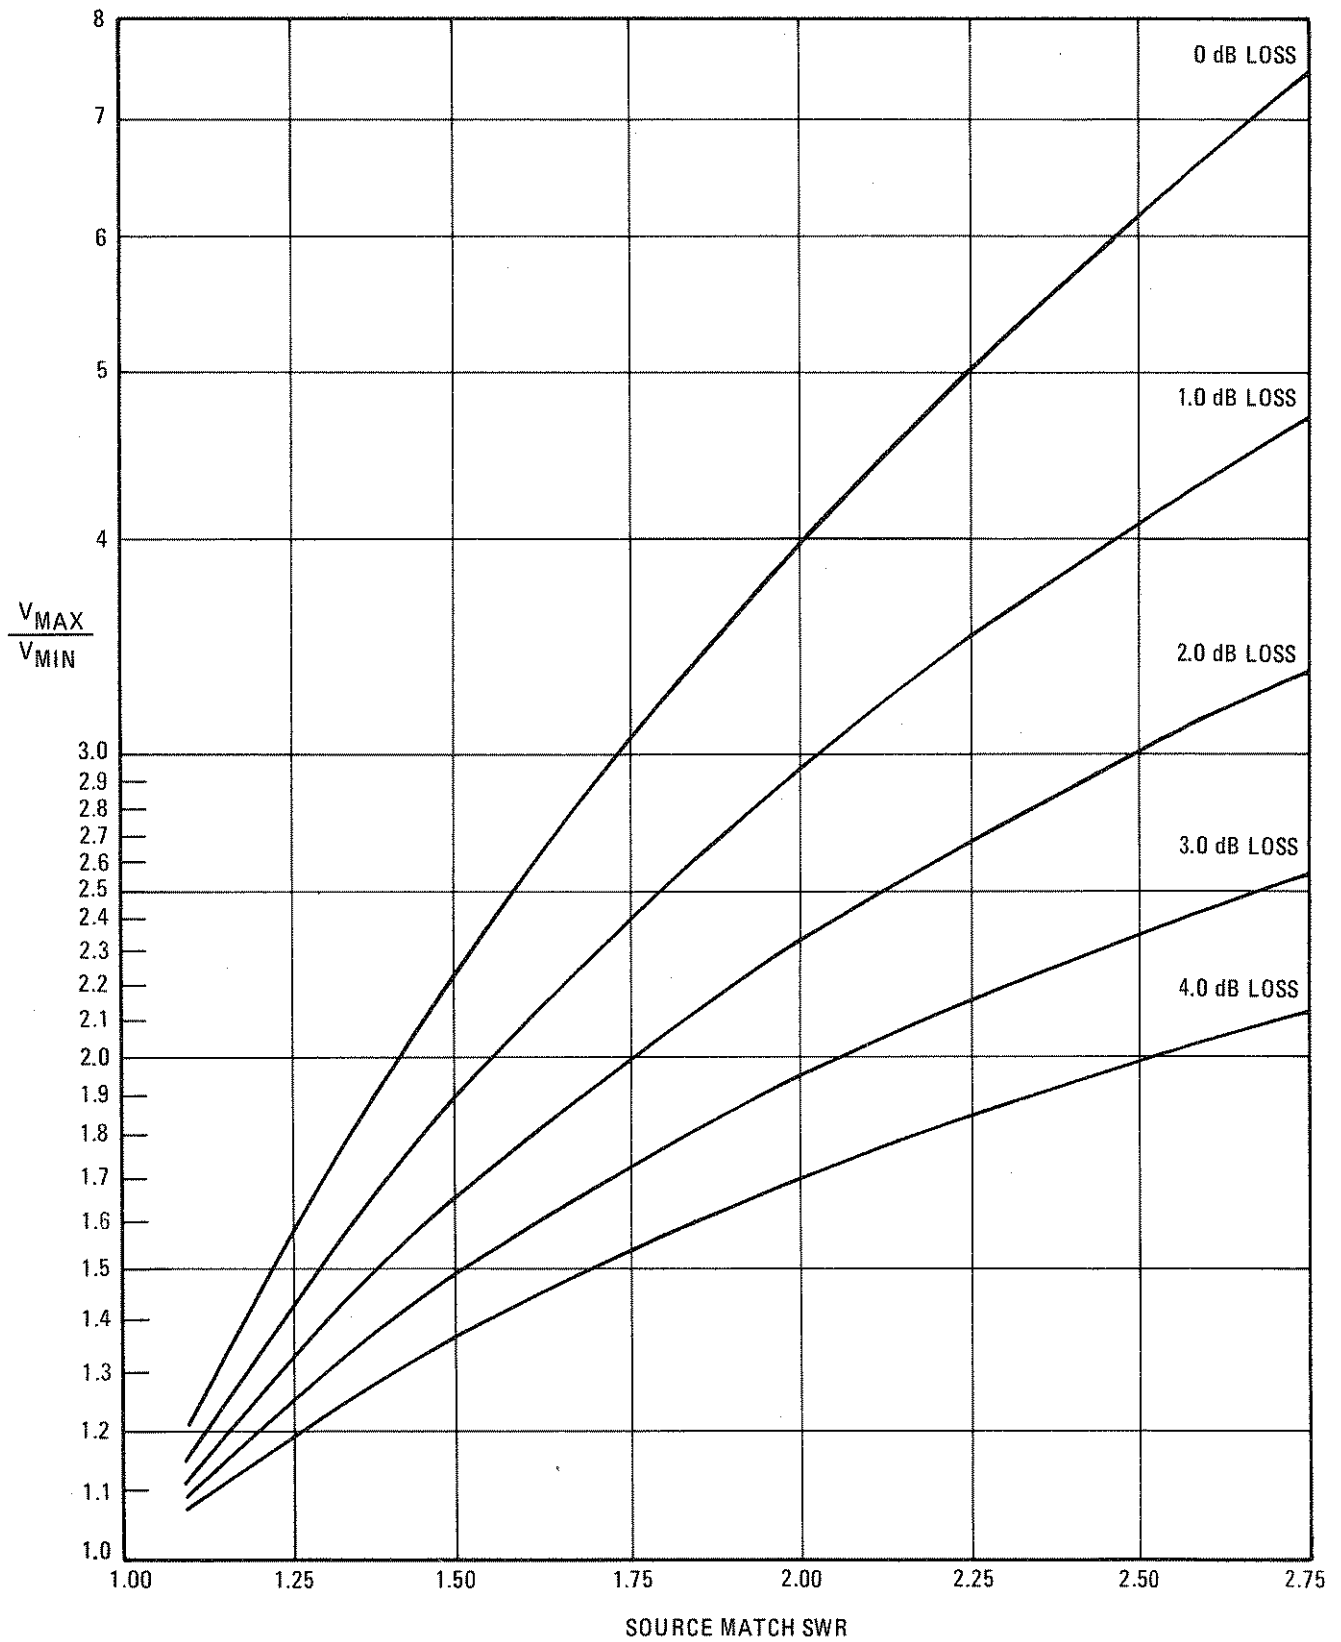

Figure 4-14. Conversion of Oscilloscope Trace to Source Match SWR
6. Convert the  $V_{MAX}/V_{MIN}$  ratio noted in step 4 into source match SWR, using Figure 4-14 and the cable loss calculated in step 5. The SWR should be less than 1.9 (2.0 for Option 002).
11. Convert the greatest **V MAX** and **V MIN** ratio noted in step 10 into source match SWR using the 0 dB **LOSS** line in Figure 4-14. The SWR should be less than 1.9 (2.0 for Option 002).
16. Convert the greatest **V MAX** and **V MIN** ratio noted in step 15 into source match SWR using Figure 4-14 on the 0 dB loss line. Record SWR on test record step 16.